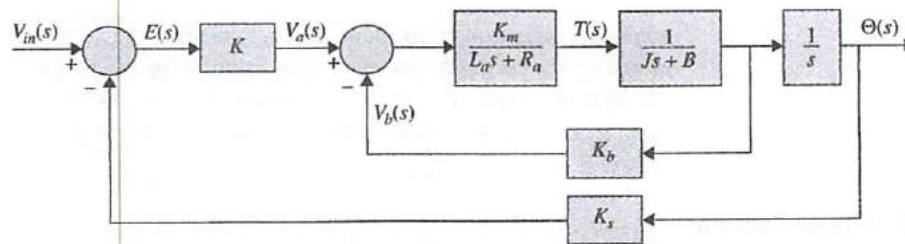

Figure 6-3 Block diagram of a position-control, armature-controlled dc motor.
- 6-12. For the system in Fig. 6-3, select $K_p = 1.0$, apply a 1 rad step input, and record the motor position for 1 sec. Use the same motor parameters as in Problem 6-1.
To control the position of the motor shaft, the simplest strategy is to use a proportional controller with gain K . The block diagram of the closed-loop system is shown in Fig. 6-3. The system is composed of an angular position sensor (usually an encoder or a potentiometer for position applications). Note that for simplicity the input voltage can be scaled to a position input $T_{in}(s)$ so that the input and output have the same units and scale.